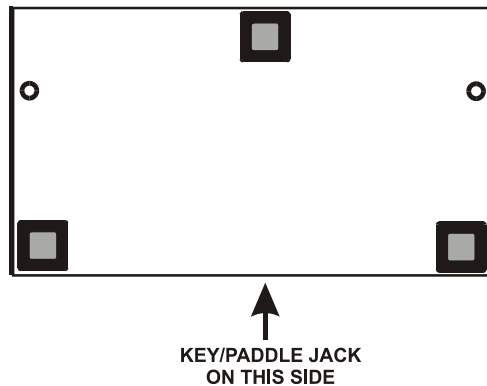

Figure 27. Installing Feet.
- Three self-adhesive feet are supplied for the bottom cover. Three feet provide excellent stability on uneven surfaces. Position the feet on the bottom as shown in Figure 27.